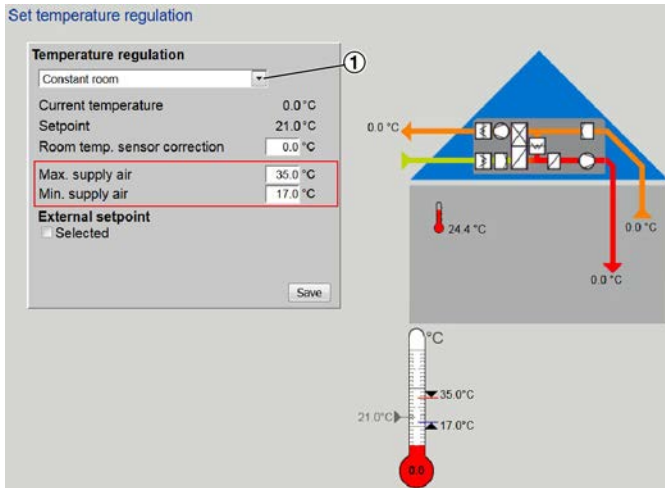

Fig. 32: Setting temperature control ('temperature regulation')
- Select a function from the drop down list (Fig. 32/1):